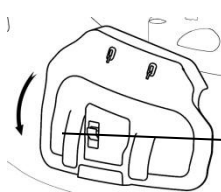

Fig. 7C
6.1.2. Make sure that the side discharge guard is lowered and blocked by the safety lever; Fig. 7C